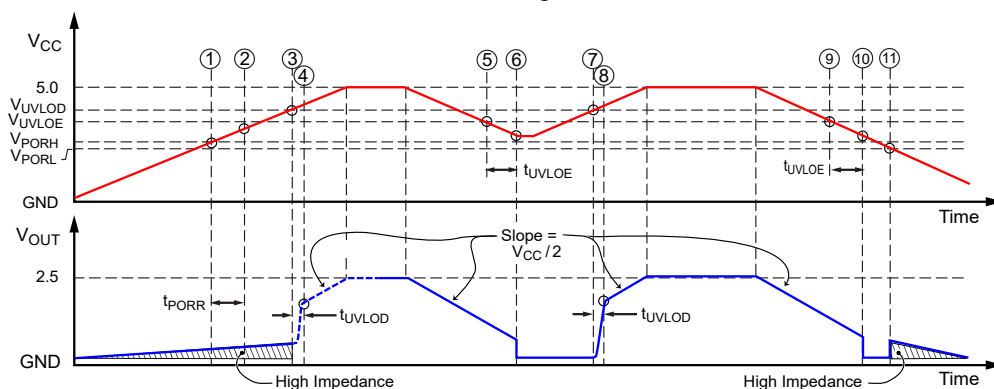

Figure 42: POR and UVLO Operation—Slow Rise Time Case
**Power-Up.** At power-up, as  $V_{CC}$  ramps up, the output is in a high-impedance state. When  $V_{CC}$  crosses  $V_{PORH}$  (location [1] in Figure 42 and [1'] in Figure 43), the POR release counter starts counting for  $t_{PORR}$ . At this point, if  $V_{CC}$  exceeds  $V_{UVLOD}$  [2'], the output goes to  $V_{CC}/2$  after  $t_{UVLOD}$  [3']. If  $V_{CC}$  does not exceed  $V_{UVLOD}$  [2], the output stays in the high-impedance state until  $V_{CC}$  reaches  $V_{UVLOD}$  [3], then goes to  $V_{CC}/2$  after  $t_{UVLOD}$  [4].